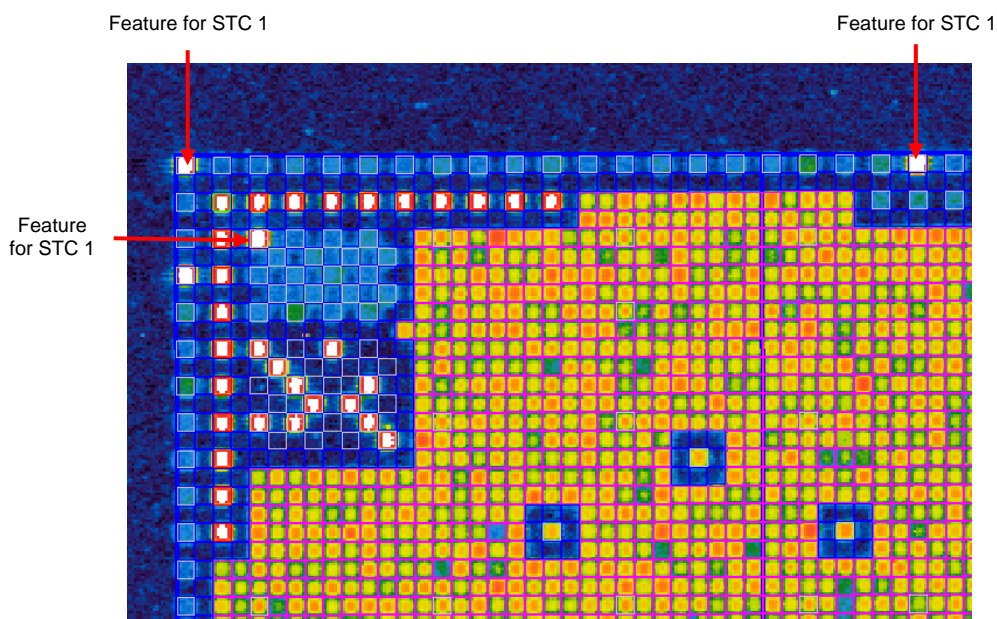

Figure 18: Example of an Array Hybridized with Sample Containing STC 1
6. Locate the repeating set of 20 features along the perimeter of the array. **Figure 18** below shows an example of an array hybridized with a sample containing STC 1.
The Sample Tracking Control report is based on signal intensities of features in the two 4 x 5 blocks with Sample Tracking Control probes (**Figure 18**). Using this report and sample records from your experiment, you can confirm the intended sample was hybridized to the intended array.